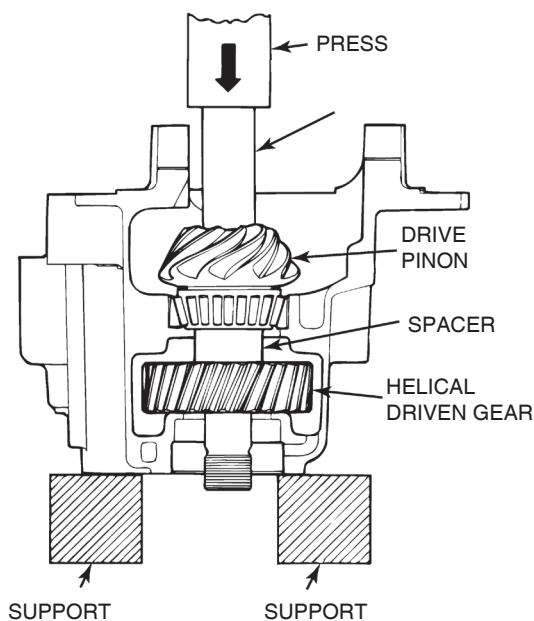

Figure 5.12
4. Place the helical driven gear over the pinion bore in the differential case so that the splines inside the gear are toward the front of the differential case. Place the large spacer on top of the helical driven gear so that the spacer is toward the inner bearing cap. Figure 5.12.
5. Install the drive pinion into the helical driven gear. Verify that the splines on the pinion engage the splines inside the gear. Figure 5.12.
6. Place a protector in the head of the drive pinion. Use a press to install the pinion into the differential case so that the inner bearing cone touches the bearing cap. At this time, the helical driven gear will not be completely installed on the drive pinion. Figure 5.12.